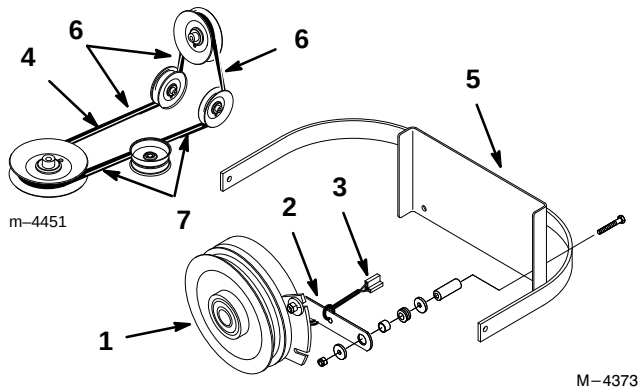

Figure 46
2. Remove the clutch retaining strap from machine frame and unplug clutch terminal from wire harness (Fig. 46).
3. Remove PTO drive belt from rear idler arm and front idler pulley assembly. Remove the PTO drive belt (Fig. 46).
4. Place new drive belt over clutch, around rear idler pulley, installed into rear idler arm assembly, installed into front idler pulley assembly and onto top center pulley (Fig. 46).
- IMPORTANT: Check the amount of twist in belt between pulleys. Make sure it is only what is specified in figure 46.**
5. Install clutch retaining strap and plug clutch terminal into main wire harness (Fig. 46).